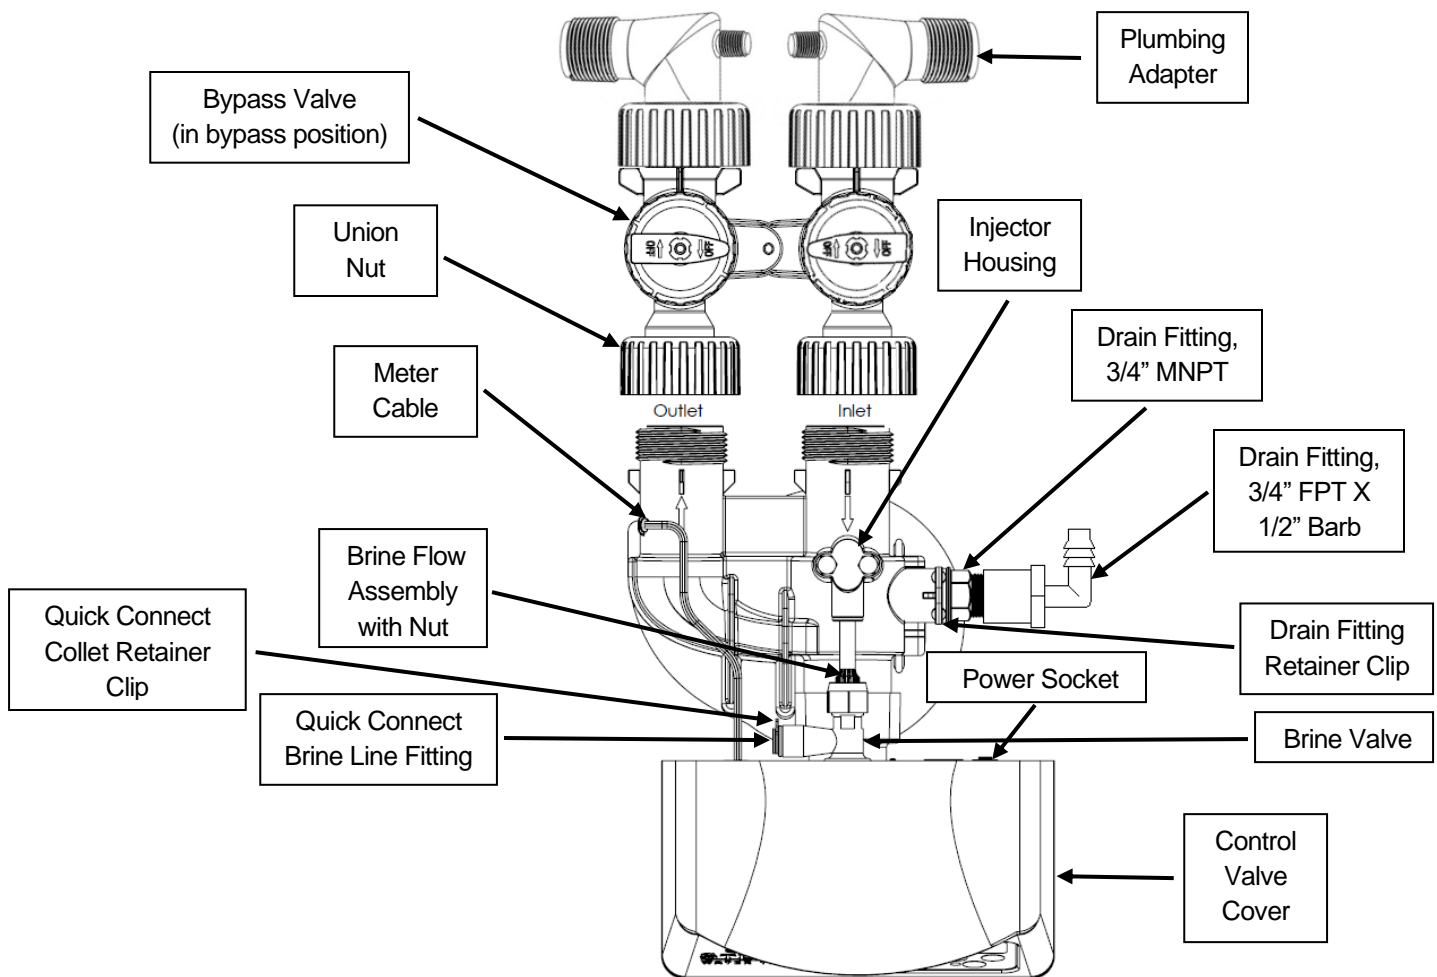
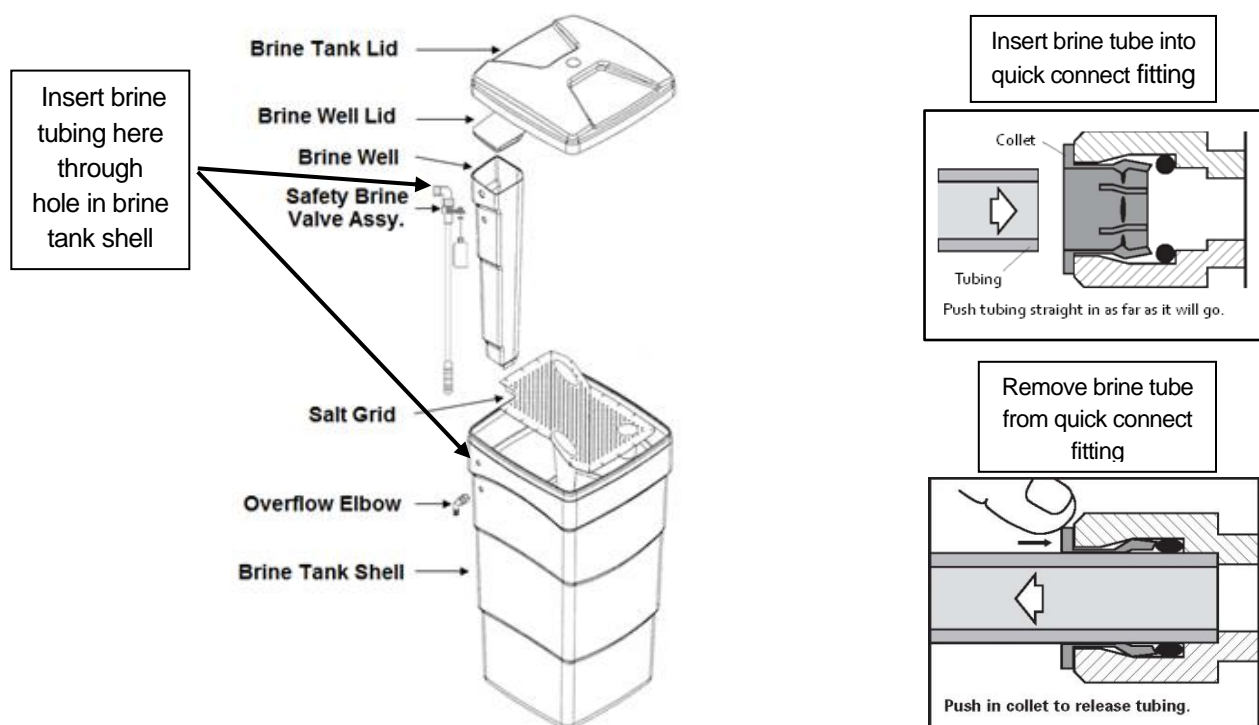

FIGURE 2: Top View of Control Valve
FIGURE 3: Brine Tank Components
- STEP 2:** Using the integrated coupling nuts, attach the bypass valve to the inlet/outlet of the control valve and put the bypass handles in the bypass position (Figure 2).
- STEP 6:** Use the provided polyethylene tubing (**NO VINYL TUBING**) to run drain line from control valve barbed drain fitting (Figure 2) to floor drain or sump pit capable of handling the backwash rate of the softener (refer to specifications on Page 17). **THE DISCHARGE END OF THE DRAIN LINE MUST BE FIRMLY SECURED!** There must be an air gap at the end of the drain line to prevent siphoning of wastewater and meet plumbing code. Total length of drain line should be 15' or less. AVOID OVERHEAD DRAINS.
- STEP 7:** Connect one end of the 3/8" brine line to the control valve quick connect brine line fitting (Figure 2, Page 5). Insert the other end of the brine line through the hole in the brine tank and into the quick connect fitting on the safety brine valve (Figure 3). Remove the quick connect collet retainer clip (if included) before inserting the brine line into each fitting, press the tube in very firmly and replace the retainer clip behind the collet. **NOTE: THE BRINE TUBING SHOULD BE INSERTED 5/8" INTO THE FITTING. DO NOT PUT SALT INTO THE BRINE TANK AT THIS TIME.**
- STEP 8:** If desired, install overflow tubing (not provided) from overflow elbow on brine tank (Figure 3) to floor drain. Tubing must be lower than the overflow elbow at all times. **DO NOT CONNECT DRAIN LINE FROM SOFTENER CONTROL VALVE TO BRINE TANK OVERFLOW. DO NOT CONNECT BRINE TANK DRAIN LINE TO THE SOFTENER DRAIN LINE.**
- STEP 9:** Plug the transformer into an un-switched electrical outlet and insert the power cord plug into the power socket (Figure 2, Page 5) on the back of the control valve. Ensure control valve is in "Service" mode (time of day is displayed on the screen {refer to page 8 for Home Screen Display}).
- STEP 10:** Place bypass valve in the "Bypass" position (refer to Figure 2, Page 5; Figure 4, Page 7) and open main supply valve or turn on power to pump on private well systems.